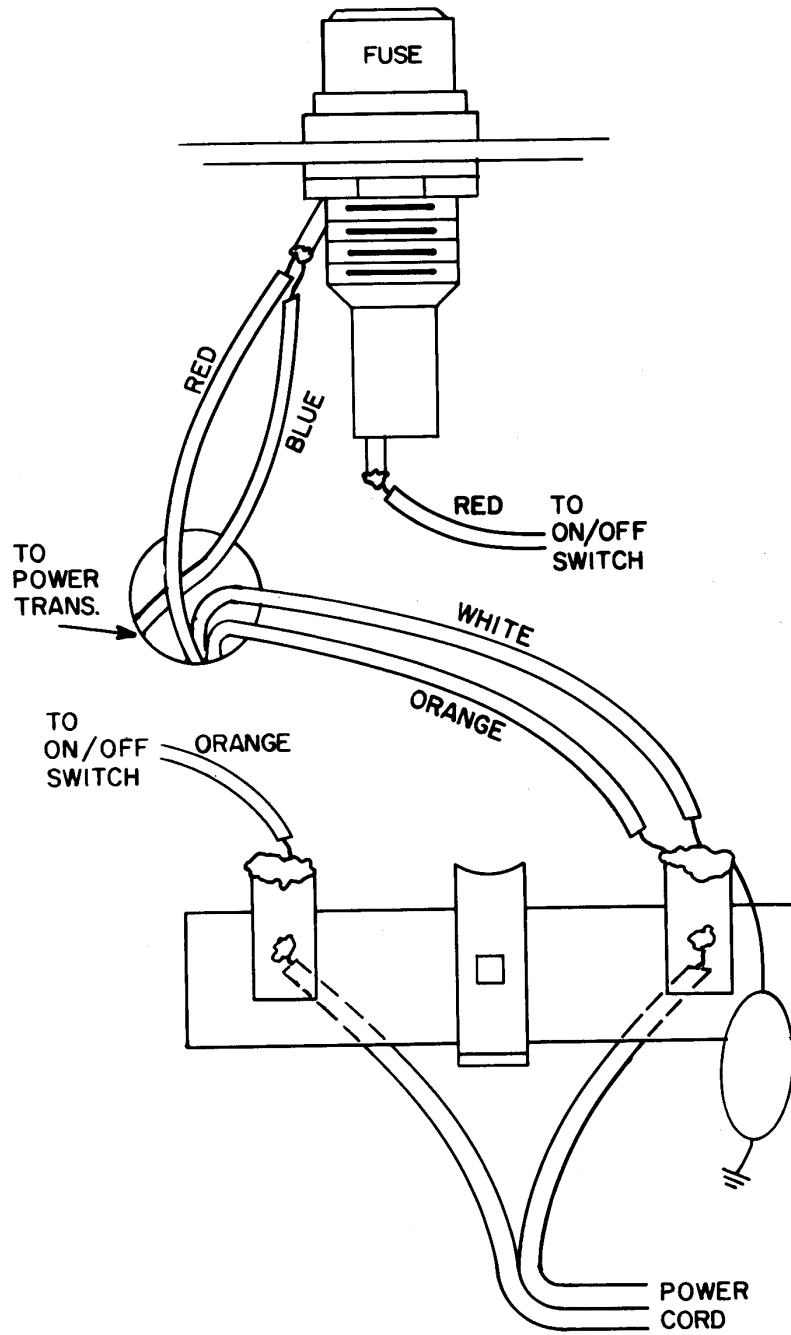

Figure 3-1. Before Wiring Model 3084 for 240 VAC
**NOTE:** See Figures 3-1 and 3-2 for wiring changes.